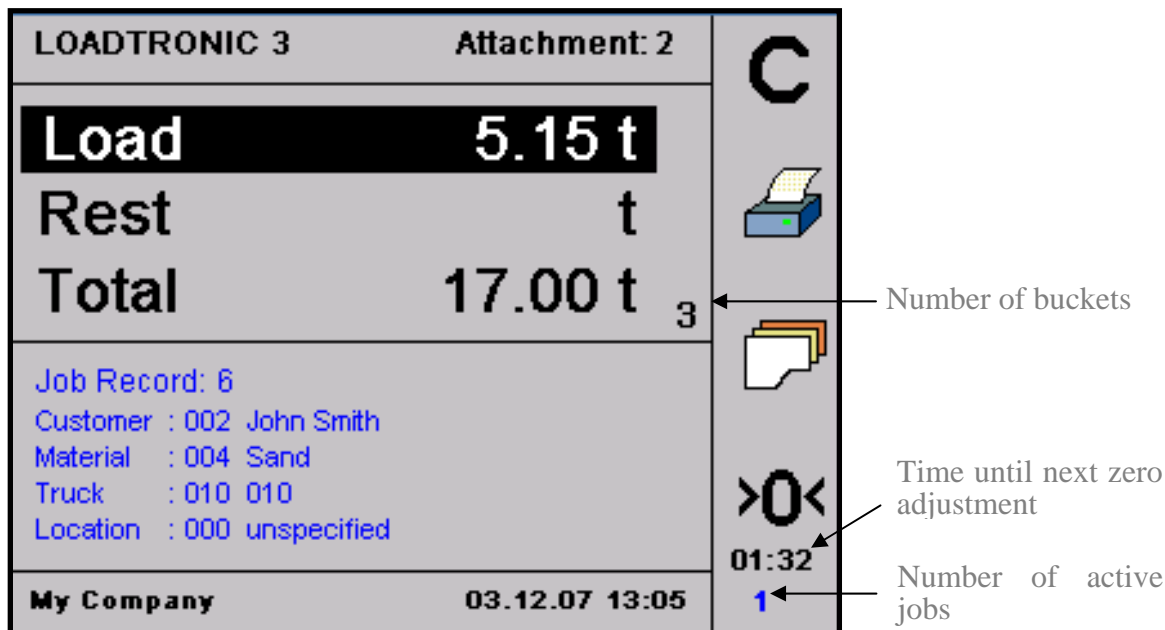

Figure 3-2 Operator’s display during automatic weighing.
**During automatic weighing the display unit shows, refer Figure 3-2:**